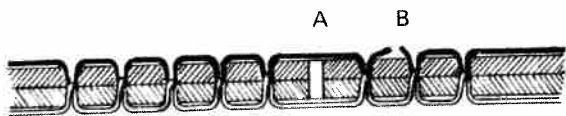

Fig. 5
Fig. 5 starts by showing a perfect seam, then a skipped stitch (A) and then a broken thread (B). Skipped stitches are caused when, for one reason or another, the point of the hook does not catch the loop of the upper thread. On all lock-stitch machines, regardless of what shuttle systems they may have, the upper thread has to form the loop explained in detail below.